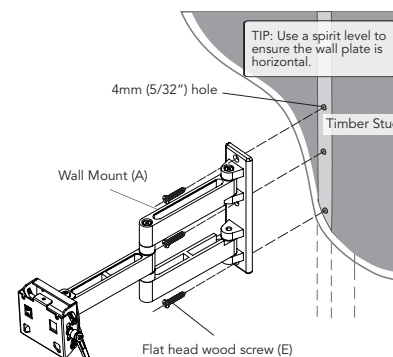

fig. 2.1
The wall mount must be screwed into a stud in order to safely hold mount and monitor. Using a stud finder, find location of stud in wall. An "edge to edge" stud finder is recommended for this. Using wall mount (A), mark on wall screw holes. Screw holes should be in the centre of the stud. A level will ensure the holes for the mount are vertically straight. Drill three 4mm (5/32") diameter holes 65mm (2.5") deep. Attach wall arm to wall using three 6.3mm flat head wood screws (E), see fig. 2.1.